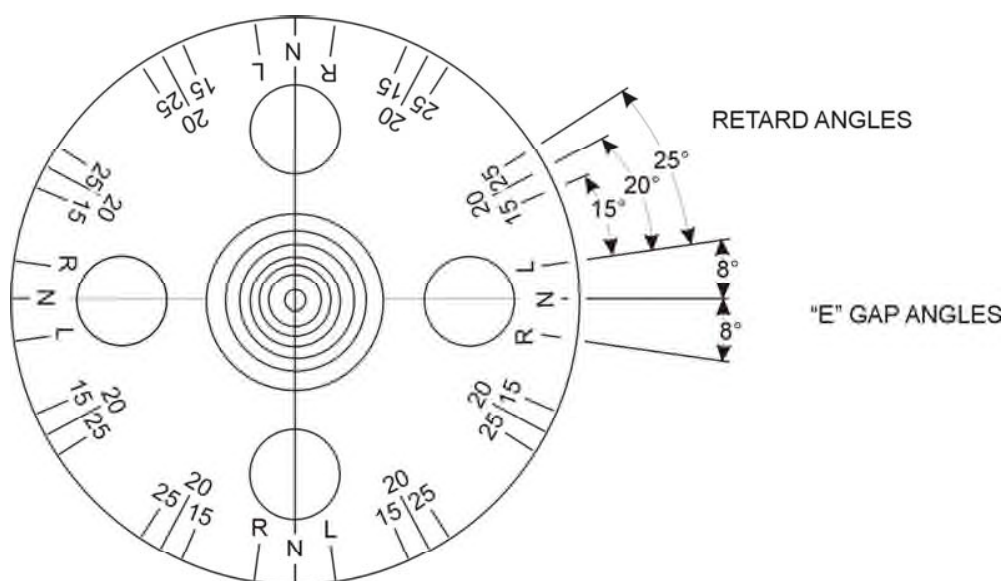

Figure 5-4. Timing Marks on Rotating Magneto
- (1) *Main Breakers* – Connect the timing light negative lead to any unpainted surface of the magneto. Connect one positive lead to the left main breaker terminal and the second positive lead to the right main breaker terminal.
- (2) Back the engine up a few degrees and again bump forward toward number one cylinder firing position while observing timing lights. Both lights should go out to indicate opening of the main breakers when the timing pointer is indicating within the width of the “L” or “R” mark. If breaker timing is incorrect, loosen breaker screws and correct. Retorque breaker screws to 2 to 25 in.-lbs.
- (3) *Retard Breaker* – Remove timing light leads from the main breaker terminals. Attach one positive lead to retard breaker terminal, and second positive lead to the tachometer breaker terminal, if used.
- (4) Back the engine up a few degrees and again bump forward toward number one cylinder firing position until pointer is aligned with 15° retard timing mark. See Figure 5-4. Retard breaker should just open at this position.
- (5) If retard timing is not correct, loosen cam securing screw and turn the retard breaker cam as required to make retard breaker open per paragraph c(4). Retorque cam screw to 16-20 in. lbs.
- (6) Observe that tachometer breaker is opened by the cam lobe. No synchronization of this breaker is required.
(7) Check action of impulse coupling (D-2000 series only). With the ignition switch off observe breaker cam end of rotor while manually cranking engine through a firing sequence. Rotor should alternately stop and then (with an audible snap) be rotated rapidly through a retard firing position.